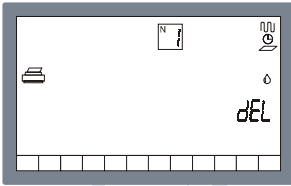

Fig.12
N.B.: the counts relative to the symbols which are lit up are reset (in the example in fig. 12, the space travelled, time worked, surface area treated and liquid distributed counts are reset). To change count, press **[F2]**.